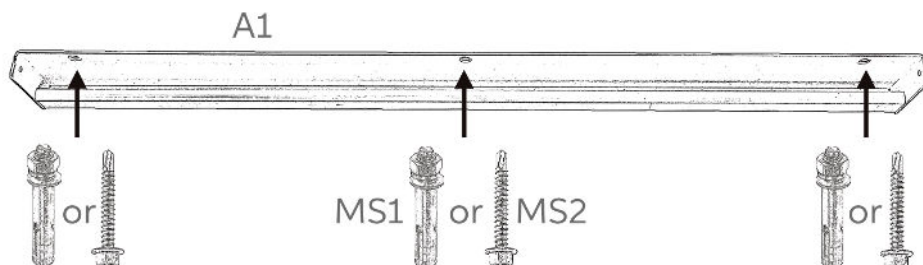

Fig. 1
7. Level and fasten first mounting cross bar (A1) onto the wall where you will be installing your RHINO using the MS1 screws provided, as seen in Figure 1. This will be the top crossbar of your wall mount.
3. Once position is set, mount second crossbar (A2) to wall using the MS2 screws provided, as seen in Figure 1. This will be the bottom crossbar of your wall mount.
4. Once position is set, mount second crossbar (A2) to wall using the MS2 screws provided, as seen in Figure 1. This will be the bottom crossbar of your wall mount.